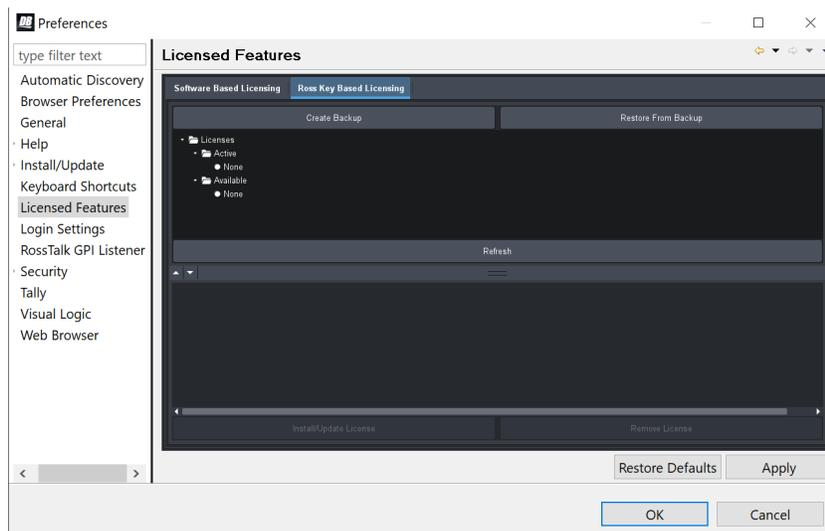

Figure 2 - DashBoard Licensed Features - Ross Key Based Licensing tab
- a. From the main toolbar, select **Window > Preferences**. Refer to Figure 2.